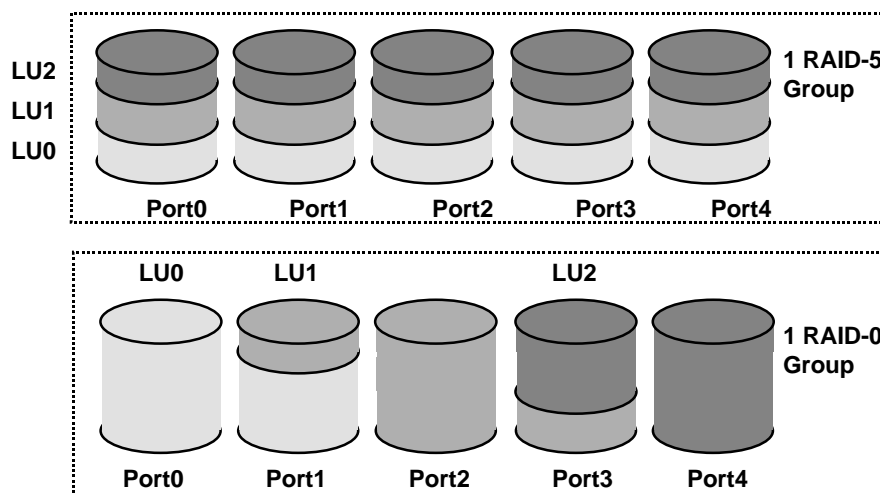

Figure 3-5.
A RAID group can be divided into more than one *logical unit (LU)*. Each logical unit is addressed by its *logical unit number (LUN)*. This is illustrated in Figure 3-5. A maximum of 8 LUs per DF350F subsystem are supported.